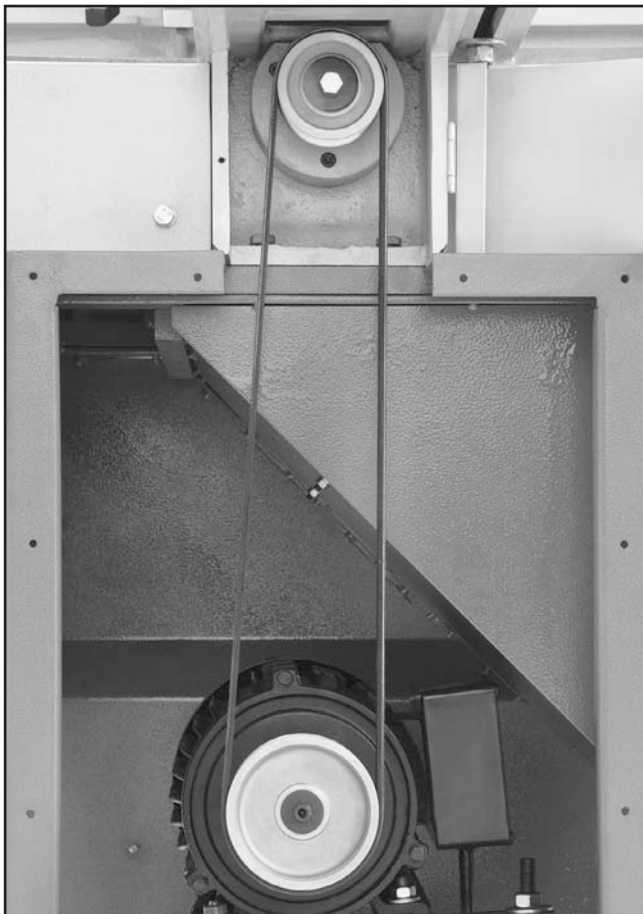

Figure 64. Belt and pulleys.
2. Remove the rear access door and open the rear cutterhead door at the back of the machine (see **Figure 64**).